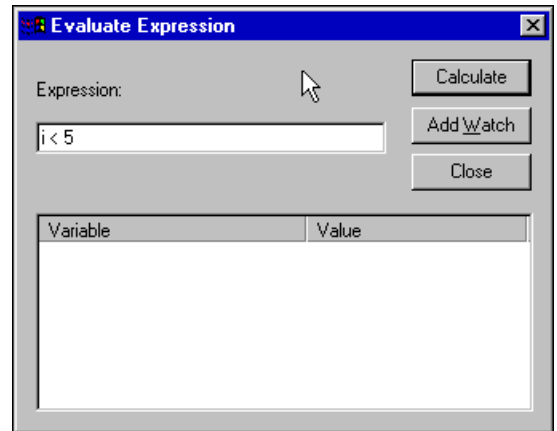

Figure 3-29 The Evaluate Expression window
1. Select **Evaluate Expressions** from the **C++** menu or click on the **Evaluate Expression** button in the toolbar. The Evaluate Expression window is displayed (Figure 3-29).